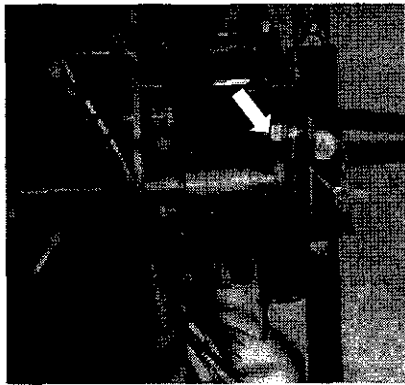

figure 20
8. Loosen 2 M8 hex nuts that retain the bearing on the bearing end of the core (figure 20).